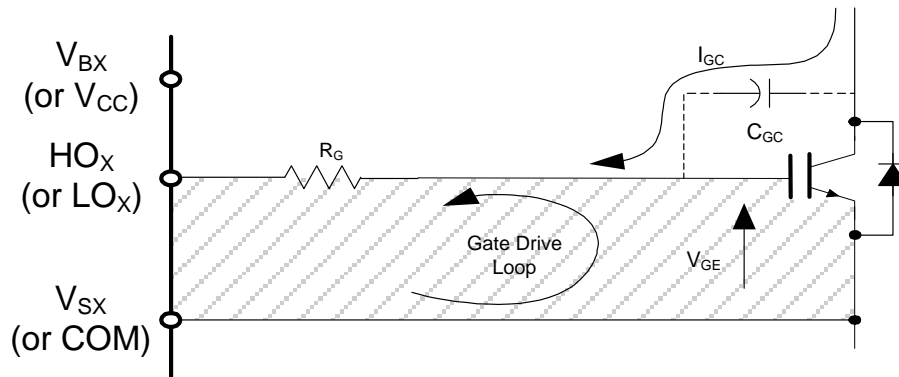

Figure 31: Antenna Loops
- **Gate Drive Loops:** Current loops behave like antennas and are able to receive and transmit EM noise (see Figure 31). In order to reduce the EM coupling and improve the power switch turn on/off performance, the gate drive loops must be reduced as much as possible. Moreover, current can be injected inside the gate drive loop via the IGBT collector-to-gate parasitic capacitance. The parasitic auto-inductance of the gate loop contributes to developing a voltage across the gate-emitter, thus increasing the possibility of a self turn-on effect.